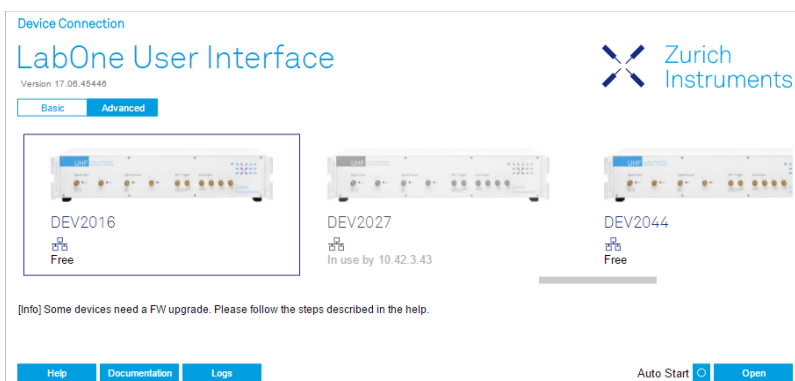

Figure 1.10. Device Connection dialog
3. You can now start the LabOne User Interface as described in Section 1.5.2 and choose an instrument to connect to via the Device Connection dialog shown in Figure 1.10.
After starting LabOne, the Device Connection dialog in Figure 1.10 is shown to select the device for the session. The term session is used for an active connection between the user interface and the device. Such a session is defined by device settings and user interface settings. Several sessions can be started in parallel. The sessions run on a shared LabOne Web Server.
In this case the browser is no longer able to connect to the LabOne Web Server. This can happen if the Web Server and Data Server run on different PCs and a network connection is interrupted. As long as the Web Server is running and the session did not yet time out, it is possible to just attach to the existing session and continue. Thus, within about 15 seconds it is possible with **Retry** to recover the old session connection. The **Reload** button opens the Device Connection dialog shown in Figure 1.10. The figure below shows an example of the Connection Lost dialog.
If a session error cannot be handled, the LabOne Web Server will restart to show a new Device Connection dialog as shown in Figure 1.10. During the restart a window is displayed indicating that the LabOne User Interface will reload. If reloading does not happen the same effect can be triggered by pressing F5 on the keyboard. The figure below shows an example of this dialog.